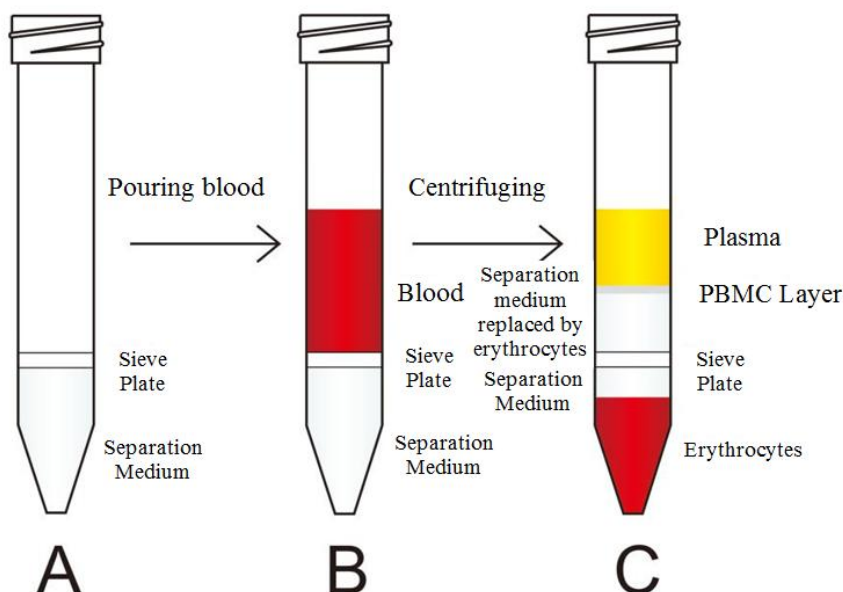

Figure 1. Process of Separating Blood with Lymphocyte Separation Tube for Human Peripheral Blood
1. Inspect, as shown in Figure 1 (A). Take out the separation tube, and observe whether any separation medium has moved from below to above of the sieve plate. If yes, centrifuge at 800 g for 1 min at 20°C.
2. Pour blood, as shown in Figure 1 (B). The blood sample must be anticoagulant blood without the need of dilution.
4. After suctioning out a portion of the plasma, directly pour the remaining small amount of plasma, PBMC layer, and a small amount of separation medium above the porous barrier into a clean centrifuge tube. As shown in Figure 1 (C), and the PBMC layer is below the plasma and above the separation medium.